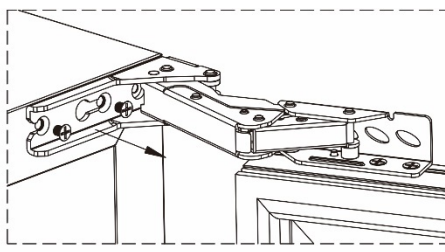

Fig.2
3. Remove the two screws of top and bottom hinge using a Philips screwdriver. (Fig.2)